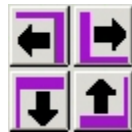

Figure 3.19
- Move the crosshairs by clicking on the crosshair buttons (Figure 3.19).